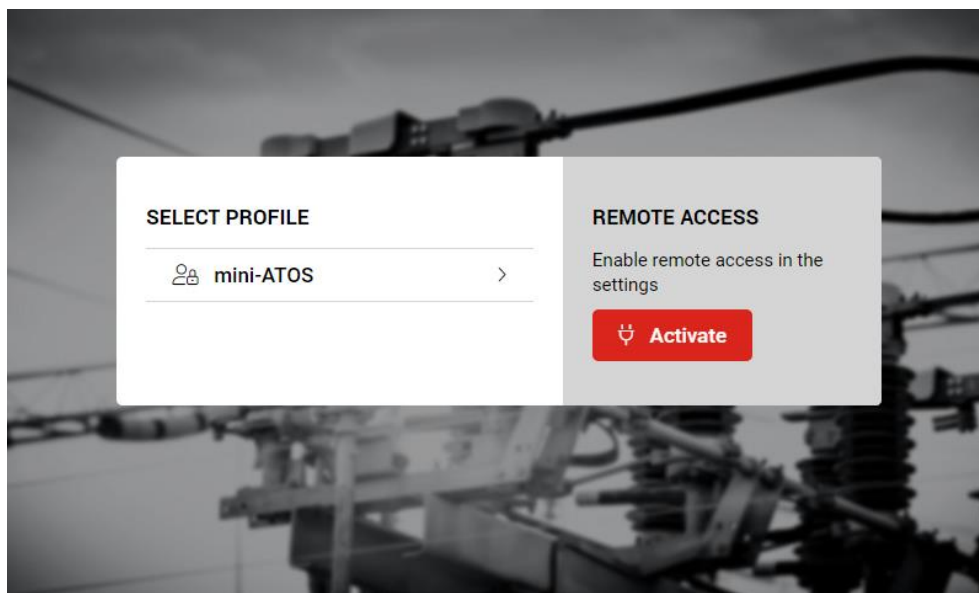

Figure 81: Select Profile page on the mini-ATOS display
- 3- From the home page or the main menu, tap the logout icon  to see the select profile page like Figure 81